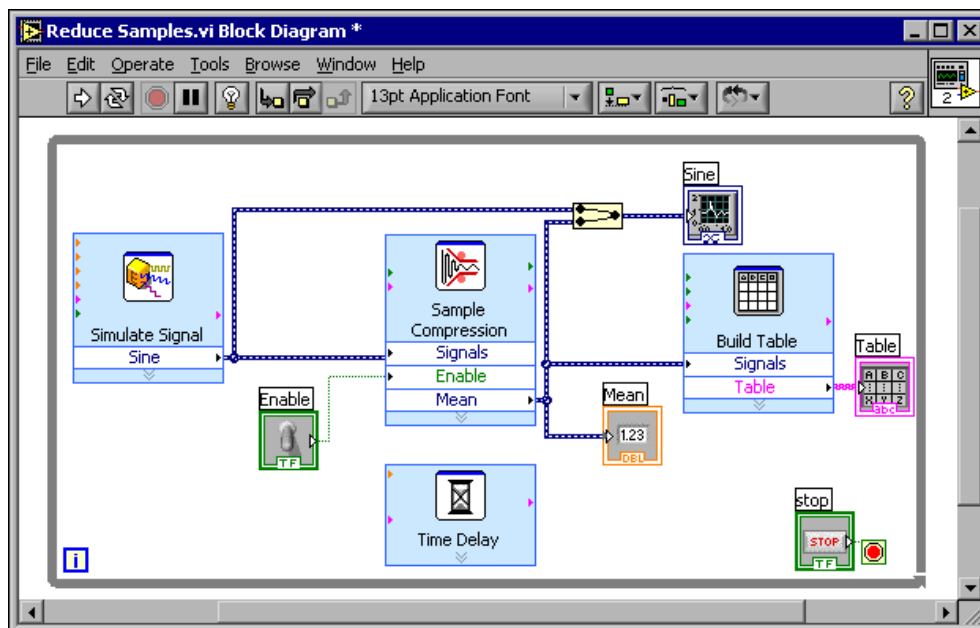

Figure 2.34
5. Using the Wiring tool, wire the Mean terminal of the Sample Compression Express VI to the Signals input of the Build Table Express VI. The block diagram should appear similar to Figure 2.34.